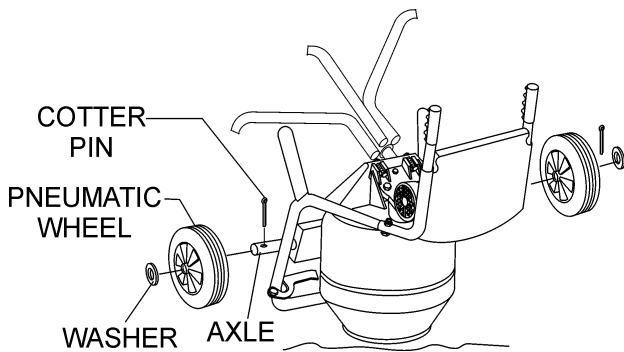

Figure 11. Wheels and Wheel Retainers
8. Place one wheel on each side of the mixer's axle as shown in Figure 11. Position washer over axle to secure wheel in place. Insert cotter pin to lock wheel in place.